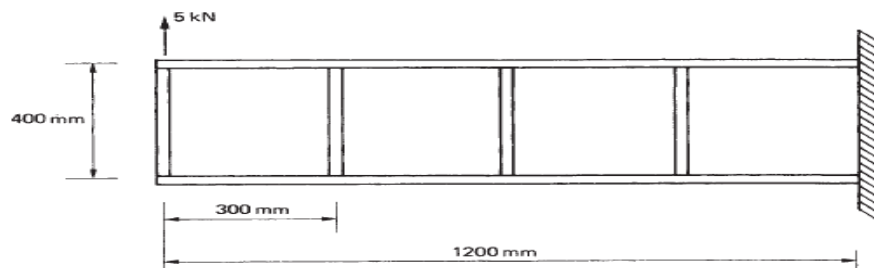

Figure.1
- 2 The beam shown in Figure.1. is assumed to have a complete tension field web. If the cross-sectional areas of the flanges and stiffeners are, respectively,  $350 \text{ mm}^2$  and  $300 \text{ mm}^2$  and the elastic section modulus of each flange is  $750 \text{ mm}^3$ , determine the maximum stress in a flange and also whether or not the stiffeners will buckle. The thickness of the web is  $2 \text{ mm}$  and the second moment of area of a stiffener about an axis in the plane of the web is  $2000 \text{ mm}^4$ ;  $E = 70\,000 \text{ N/mm}^2$ . [15M]